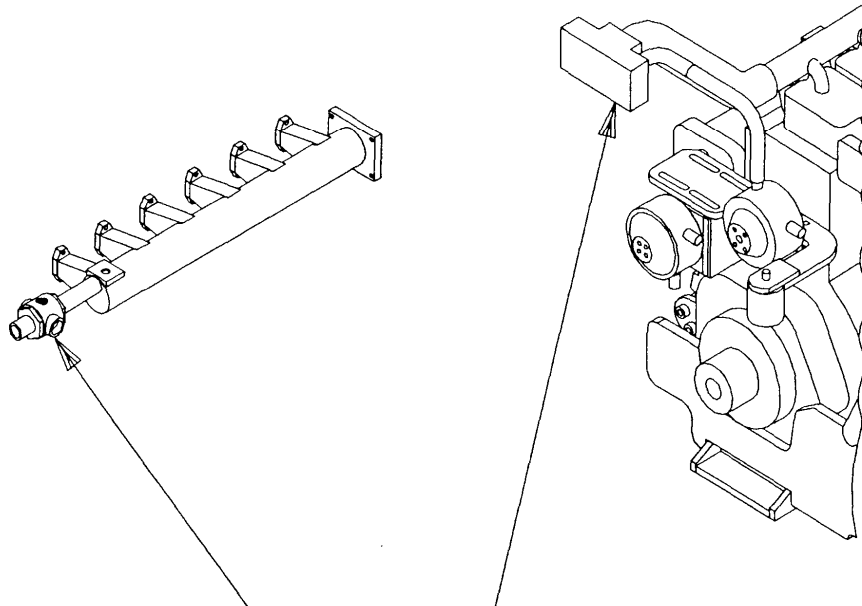

Figure 17. Location of High Coolant Temperature Sensors
31. () The safety system includes two high coolant temperature shutdown sensors. One in engine coolant outlet and one in exhaust manifold coolant outlet as shown in Figure 17.